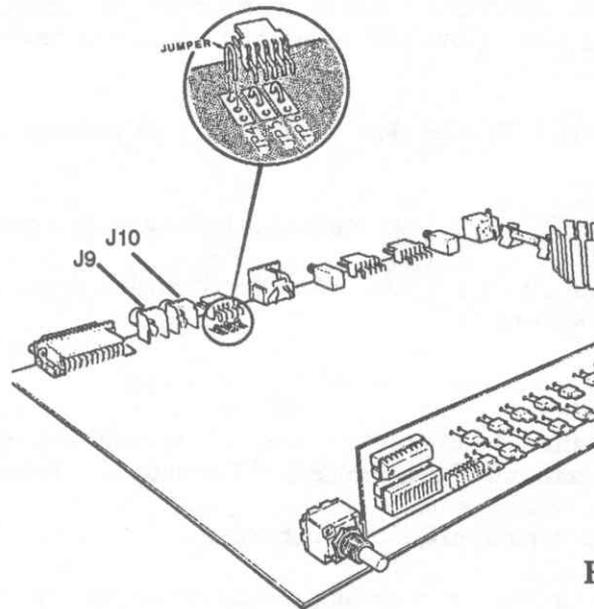

Figure 4-5
5. Reposition the main circuit board component-side-up. Then refer to Figure 4-5 and install and solder bare jumper wires between the indicated holes of JP4, JP5, and JP6. Cut off any excess wire ends.